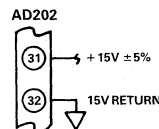

Figure 3a. Powering AD202
**Powering the AD202.** The AD202 requires only a single +15V power supply connected as shown in Figure 3a. A bypass capacitor is provided in the module.